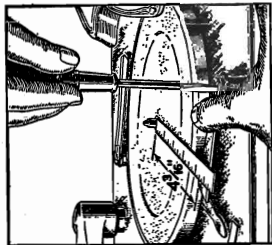

Figure 3—Adjusting elevator pad
7. After the instrument has completed one record changing operation, a ten inch record should extend about three-quarters way over each elevator pad. If this condition does not exist, an adjustment can be made by means of the screws that hold the pads in position. A pair of pliers heavily padded with cloth or other soft material should be used to hold the elevator shafts while loosening and tightening the screws. The distance from the closest part of either pad to the edge of the spindle is approximately 4 1/8". Figure 3 shows the method of making this adjustment.